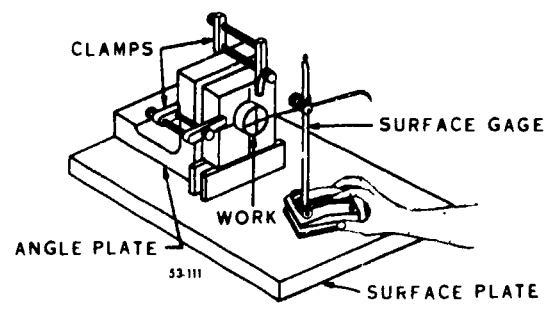

Figure 5-26. Use of the angle plate and height gage.
**Angle plates.** Angle plates have surfaces accurately machined at right angles to each other. They can be used to hold work at a right angle to the surface plate, to secure irregularly shaped work, or to secure work in a particular position. Like the V-blocks, it is best if you can clamp work to the angle plate during a layout operation. A C-clamp or parallel clamp is normally used for this purpose, as shown in figure 5-26.